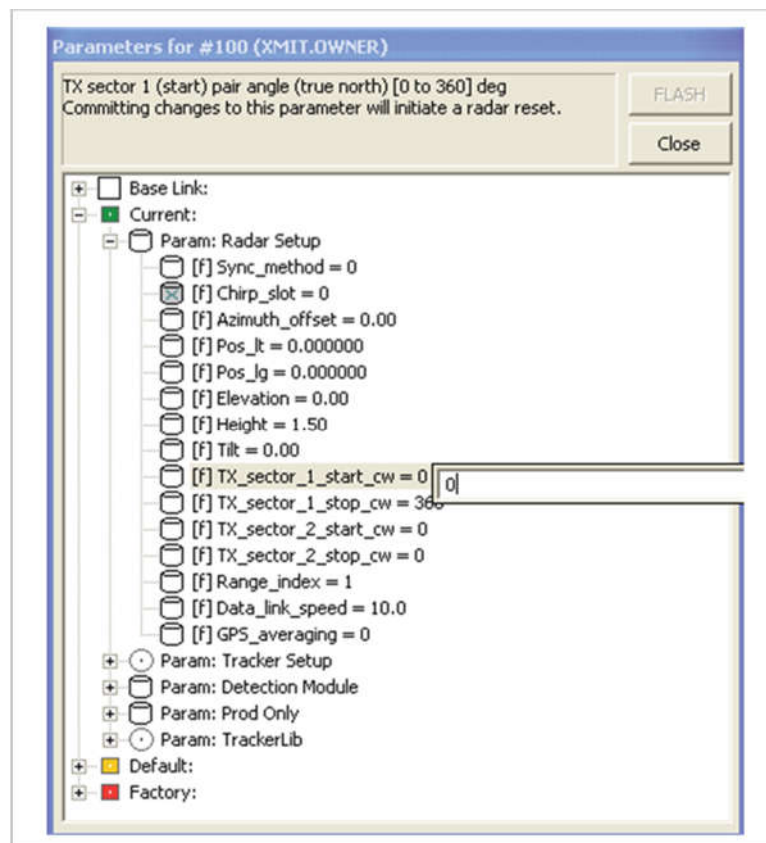

Figure 27 - Configuring the Radar Assembly Transmission Sectors
- Step 3 In the Parameters window, Radar Setup group of parameters, and Current, select the start and stop angles of the desired transmit sector and press enter, as shown in Figure 27. After entering the start and stop angles, press the FLASH button. The radar assembly will reset.